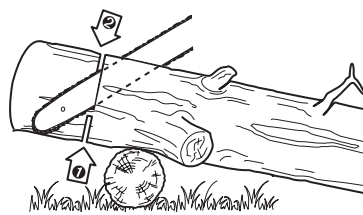

Fig. 32
- > When the log is supported on one end (Fig. 32), cut  $\frac{1}{3}$  the diameter from the underside (underbuck). Then make the finished cut by overbucking to meet the first cut.